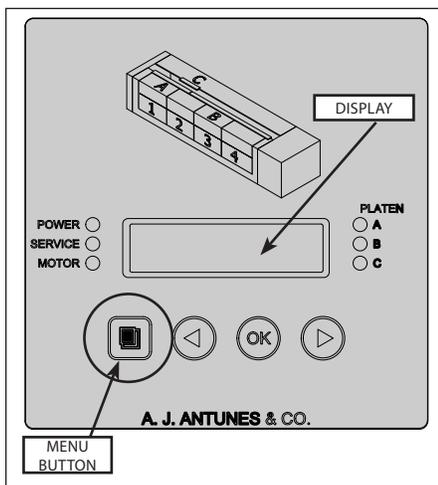

Figure 2. GST-5V Control Panel and Display
2. See Figure 2. Press and hold the MENU button for five seconds.
The control panel (Figure 2) is located on the right side of the unit. The LEDs on the control panel light to signify when each item is operating. The Service LED lights and the corresponding LED (Motor, A Platen, B Platen, C Platen) blinks when the unit requires service. A message also appears on the display.